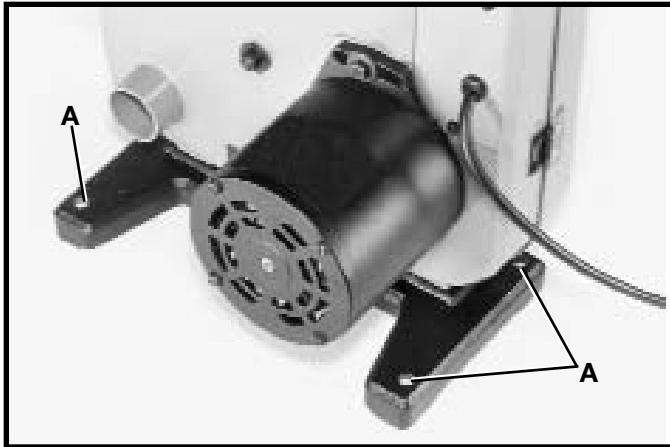

Fig. 14
WARNING The machine must be secured to a supporting surface. Four holes are provided in the band saw base for this purpose, three of which are shown at (A) Fig. 14.